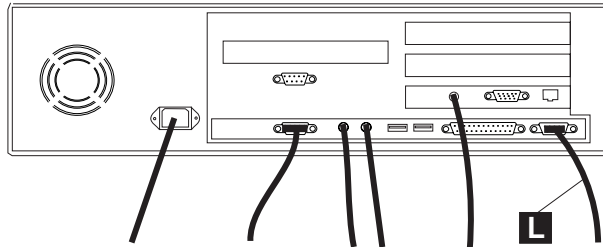

Figure 5-2. Display and Keyboard Cables Connection to the NAS
3. At the rear of the Nways Switch administration station, connect the display signal cable **L** (refer to Figure 5-2).